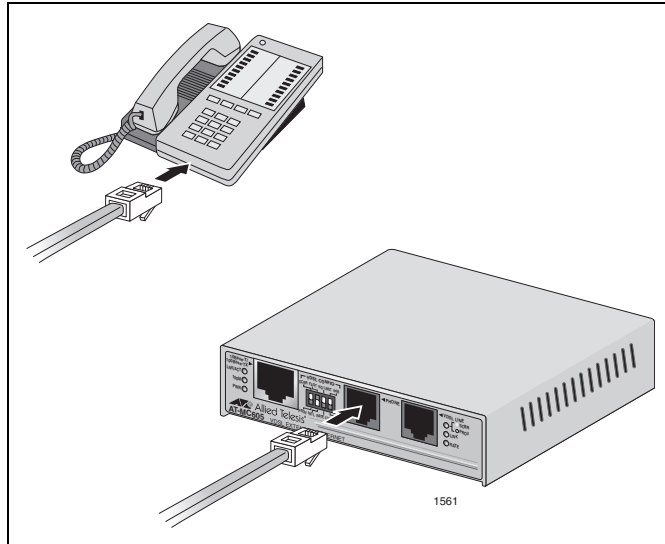

Figure 9. Connecting AT-MC605 Phone Port to Telephone
2. To connect a telephone to the AT-MC605 Ethernet Extender, connect a telephone line cable from the Phone port to the telephone, as shown in Figure 9.